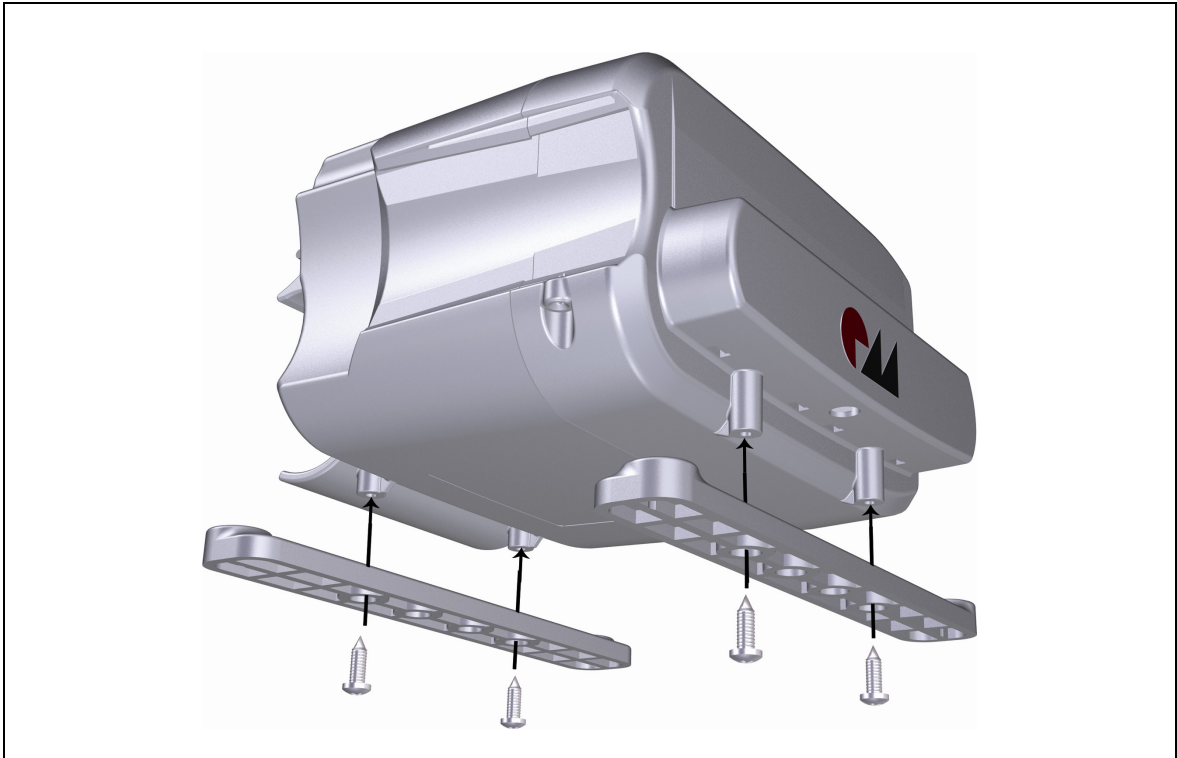

Figure 12 Mounting the adapter on the MC11 control unit
- 1 Mount the optional adapter to the control unit using four screws (according to DIN 7981: 3.9 mm diam. and 13 mm length), as shown in Figure 12.